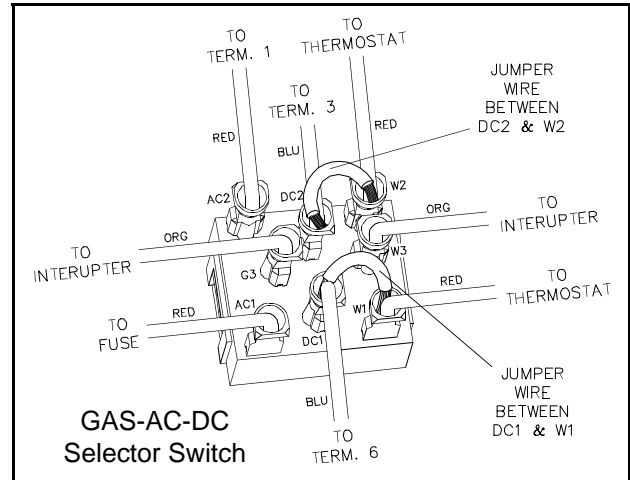

Figure 15 - Selector Switch with Jumper on DC Section
- b. With the AC and DC power disconnected, lay back the Control panel as described in Step (a) and place one jumper from DC2 to W2 and another jumper from DC1 to W1 according to Figure 15. If DC is now energized when power is applied, replace the Selector Switch
- b. With the AC and DC power disconnected, lay back the Control panel as described above and place one jumper from DC2 to W2 and another jumper from DC1 to W1 according to Figure 15. If DC is now energized when power is applied, replace the Selector Switch per replacement procedure on page 12-20.